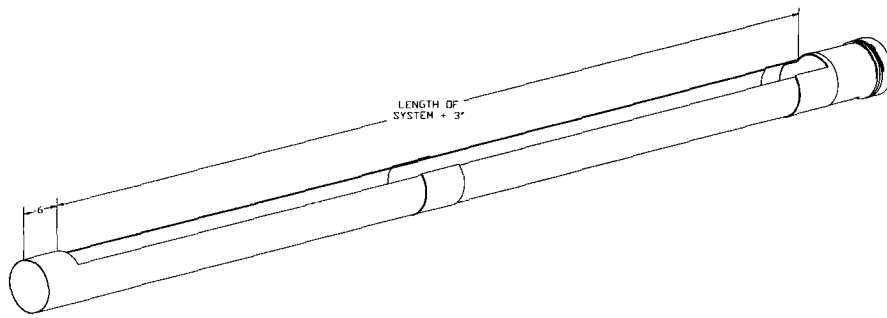

Figure 6
- F) Mark the pipe between the two outer marks approximately 6 inches from the open end of the pipe as shown in Figure 6. Make a second mark on the pipe between the two outer marks a distance equal to the length of the system plus 3 inches. Using a skill saw or jig saw, cut along the inside of the outer marks from one end mark to the other leaving the mark to the outside of the pipe as shown in Figure 6. Cut along the end marks to complete the cut and remove the cut portion of pipe.